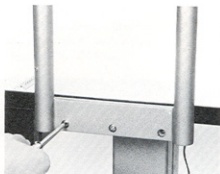

Fig. 13
**(3) Attachment of the Chin-rest and Head Rest Section**
Unscrew three attachment screws on the head rest attachment mount④ and fix the chin-rest and head rest section to the table ① with three attachment screws. (See Fig.13)